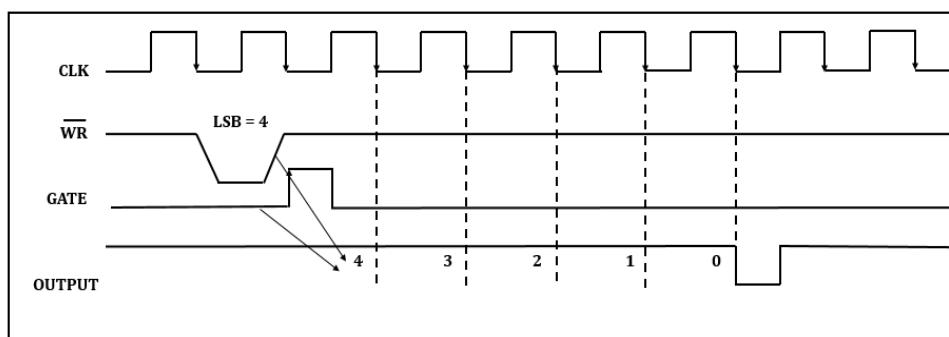

Figure 3.16: Mode 5 Timing Diagram.
- Figure 3.16 shows the Mode 5 Timing Diagram.